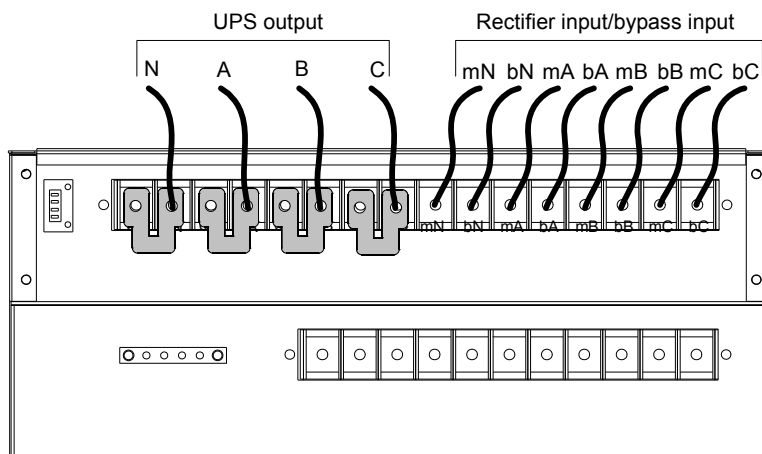

Figure 3-6 Power cable connection of split bypass
2) As shown in Figure 3-6, remove the four shorting copper bars between the rectifier input terminals (mA-mB-mC-mN) and the bypass terminal terminals (bA-bB-bC-bN). The I/O cable of users should be respectively connected to the corresponding terminals. Use screws to fasten them and ensure the correct phase rotation.